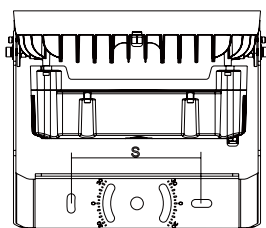

Figure 1
1. Mark the hole distance "S" shown in the product to be installed.(Figure 1)